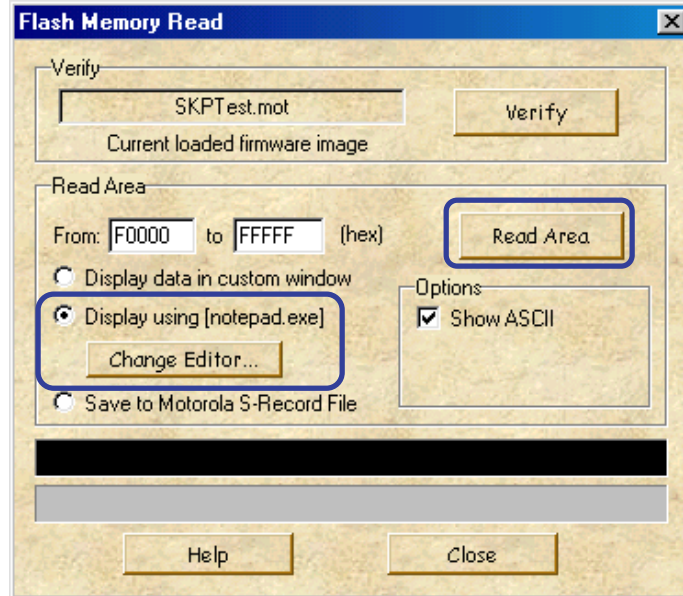

Figure 4-11 Flash Memory Read screen-3
- (4) To change the custom window used for displaying data to an editor, select the <Display using>. By default, data is displayed in Notepad. To change Notepad to any editor, click the <Change Editor> button. (See Figure 4-11)